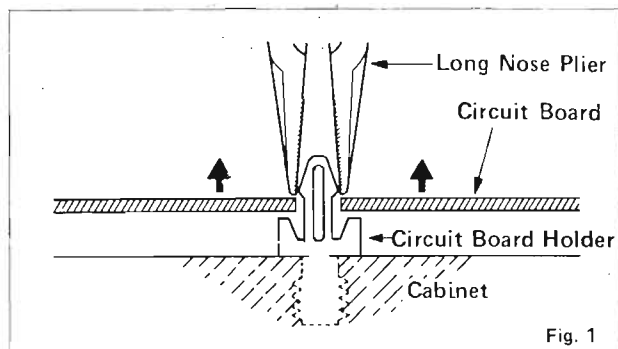

Fig. 1
- Pinch the hooked end of Circuit Board Holders on each corner of Power Supply Circuit Board by means of Long Nose Plier and gently lift the corner to remove the Power Supply Circuit Board, as shown in Figure 1.